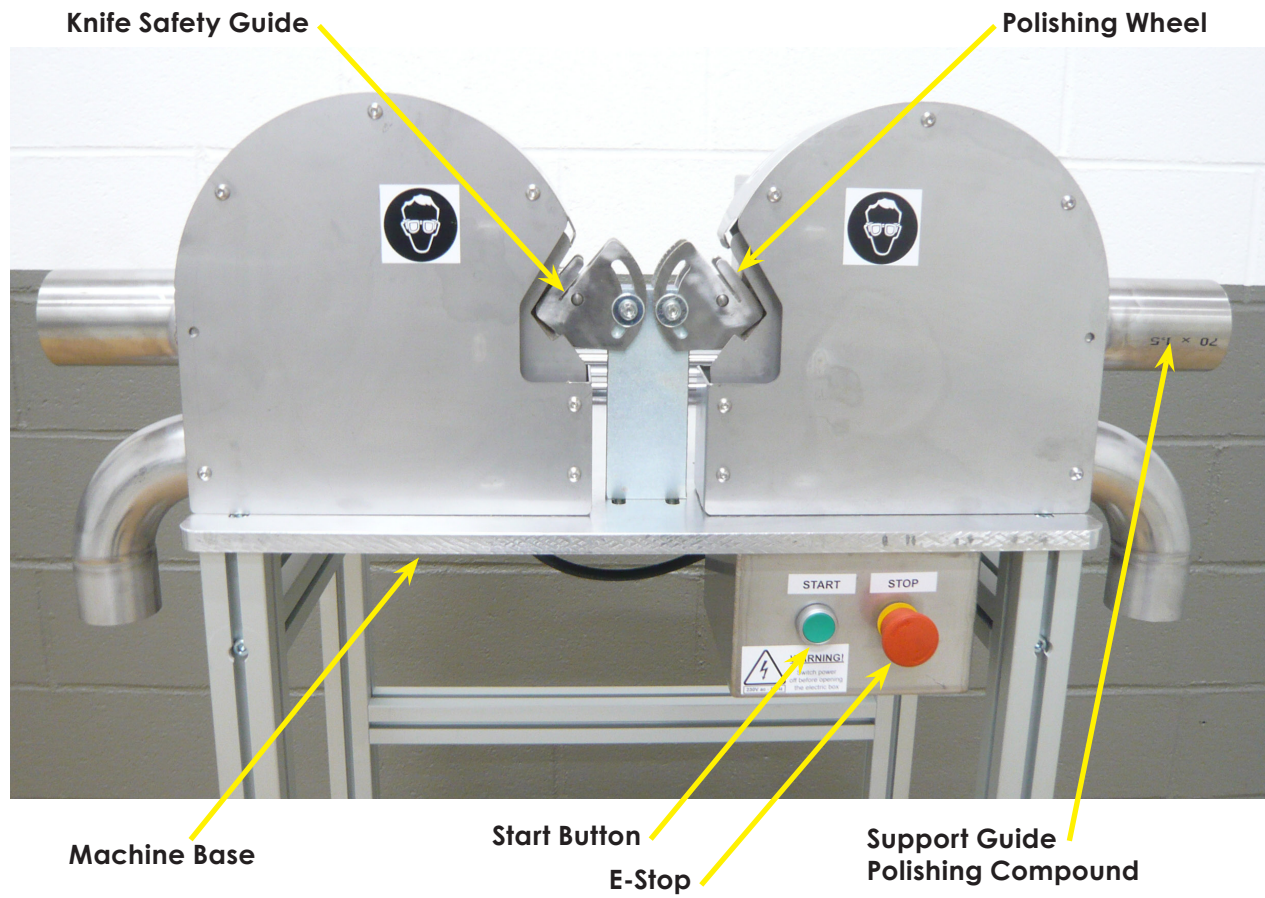

Fig. 1
- Abrasive polishing compound holder (visible in Figure 1)